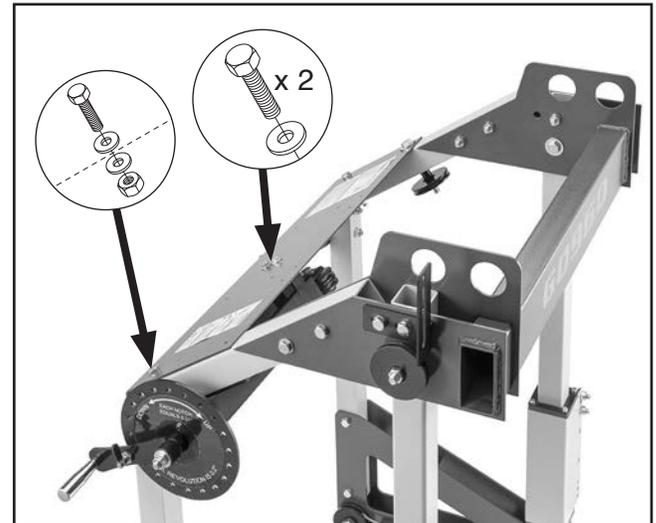

Figure 33. Lift assembly attached to carriage.
31. Have assistant hold lift assembly while you attach it to rear left post with (1) M10-1.5 x 80 hex bolt, (2) 3/8" flat washers, and (1) M10-1.5 hex nut (see **Figure 33**).
32. Attach lift assembly to switch panel with (2) M8-1.25 x 20 hex bolts and 5/16" flat washers (see **Figure 33**).